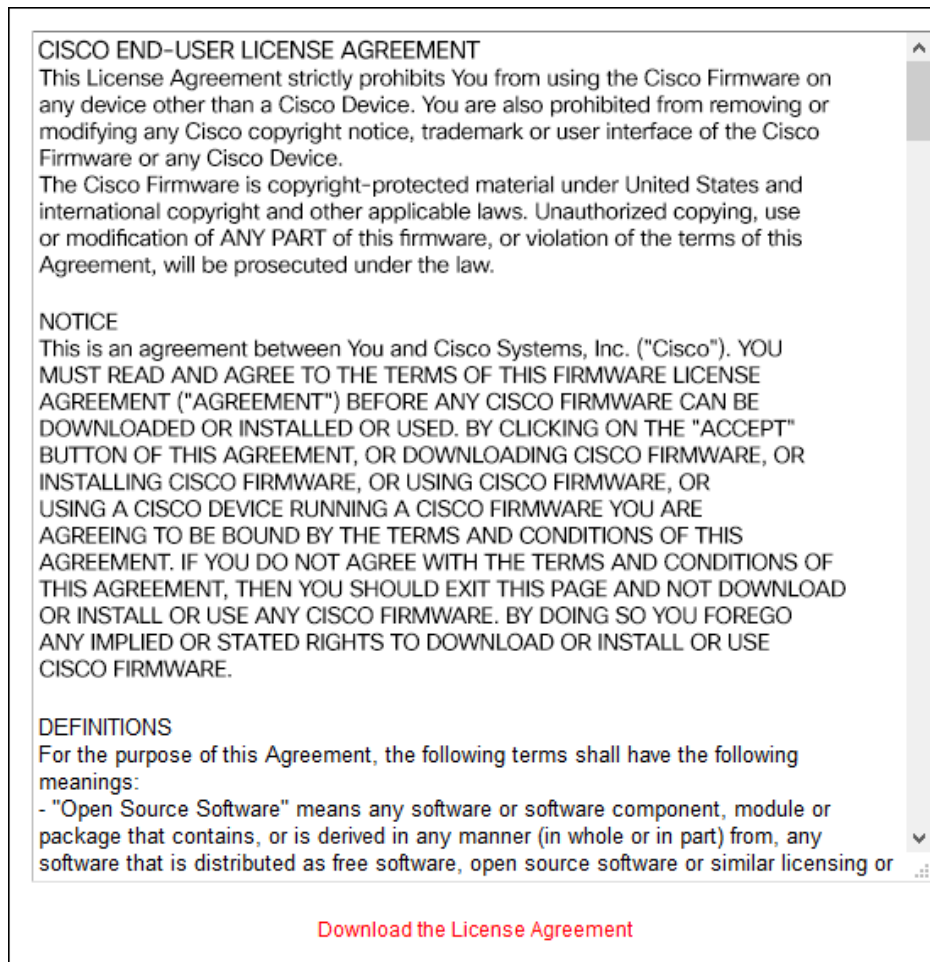

Figure 65. Configurator GUI (End-user license agreement)
- The license agreement dialog will be shown (Figure 65 (page 148)).